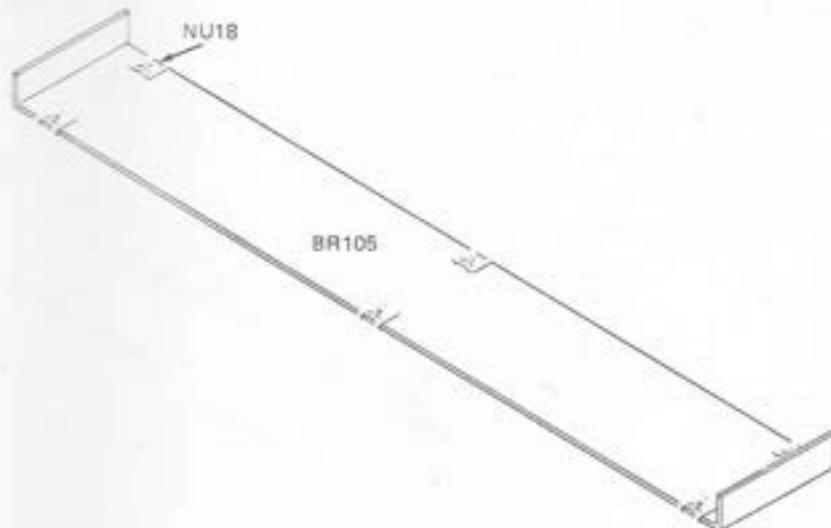

Figure 44. The alignment bracket with six Tinnerman nuts in place.
(1) Apply the four self-sticking plastic feet to one of the top/bottom panels as shown in Fig.44. The plastic feet supplied in your kit may be molded together into a block. To separate them, simply pull them apart with your fingers. To apply them to the bottom of the panel, remove the paper backing, and press the feet into place. This metal piece will now be known as the bottom cabinet. The remaining half will be used as the top of the oscilloscope
(2) Now carefully lift the oscilloscope and lower it inside the cabinet bottom
(3) Locate the two cabinet alignment brackets (BR105) and mount six Tinnerman nuts on the brackets over the six holes as shown in Fig.44. The raised portion of the Tinnerman nut goes on the inside of the U-shaped brackets()
(4) Next locate three of the 8-32 black Phillips-head screws. Put the screws through the three